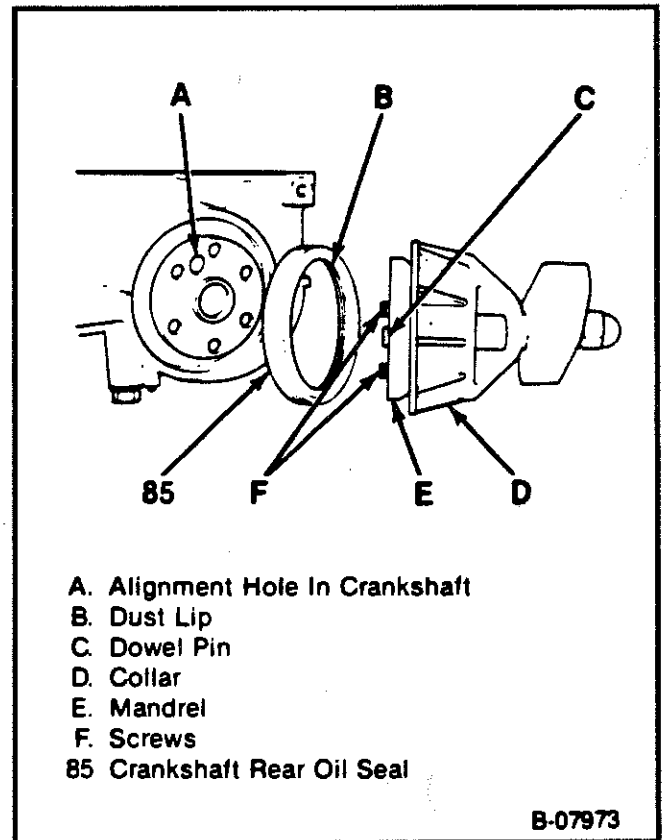

Figure 21 - Installing the Crankshaft Oil Seal
2. New seal over the mandril of J 34686 until the dust lip (back of the seal) bottoms against the collar of the tool (Figure 21).